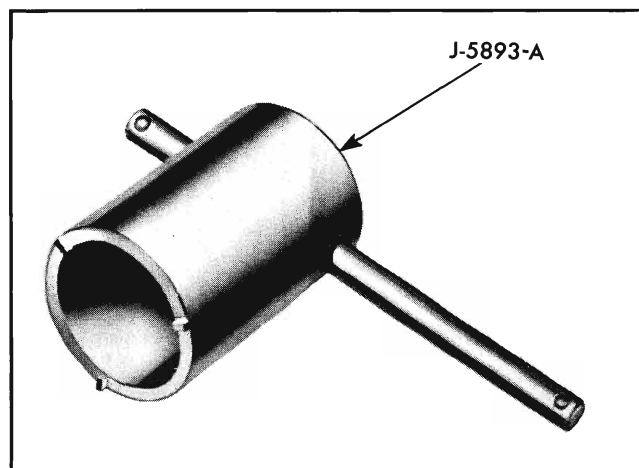

Fig. 11-65 Ignition Switch Ferrule Spanner
2. Remove ignition switch ferrule by unscrewing with special spanner J-5893-A (Fig. 11-65).